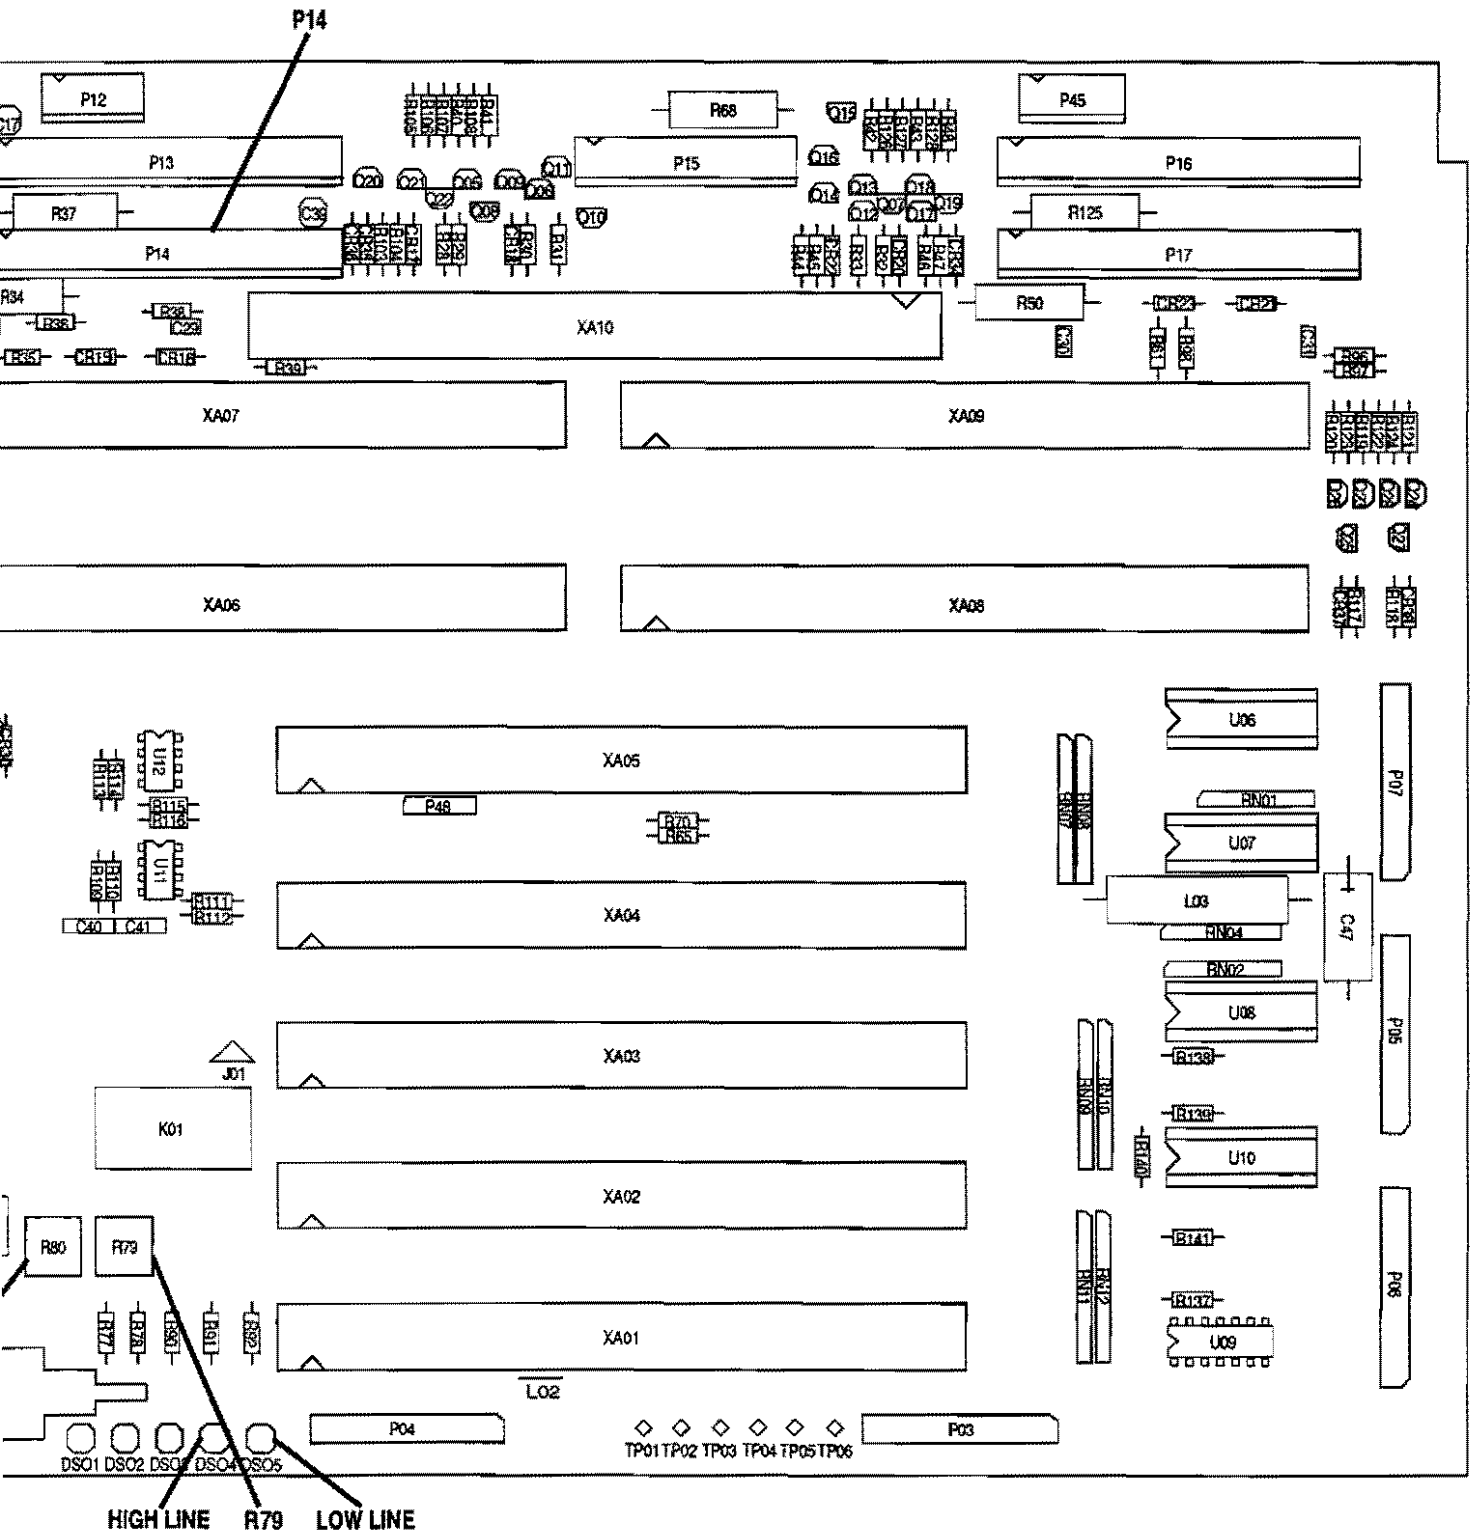

Figure 10-23. A14 Motherboard PCB, Test Point Connector, Indicator, and Adjustment Locations
- Step 1.** Adjust A14R89 (Figure 10-23) clockwise to its limit.
Step 5. Adjust A14R79 (LOW) (Figure 10-23) to its clockwise limit; then readjust counterclockwise until the A14 LOW LINE indicator lights.
- Step 3.** Adjust A14R80 (HIGH) (Figure 10-23) to its clockwise limit; then readjust counterclockwise until the HIGH LINE indicator lights.